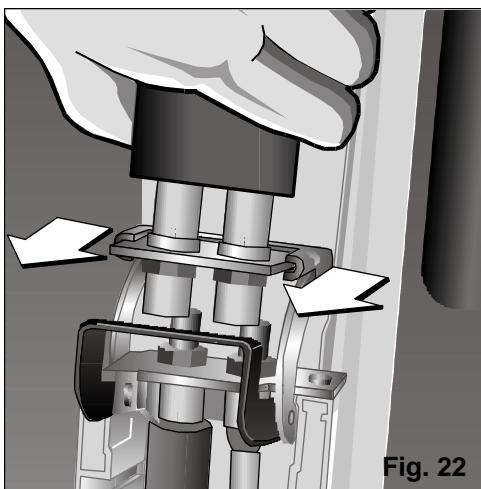

Fig. 22
- Pull the hose off its housing guides. Fig. 22.